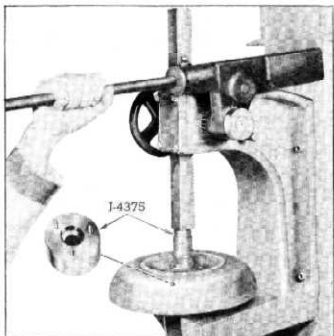

Fig. 88—Pressing Turbine Bushing into Turbine
2. Place new bushing on small end of driver and press bushing into position (fig. 88).